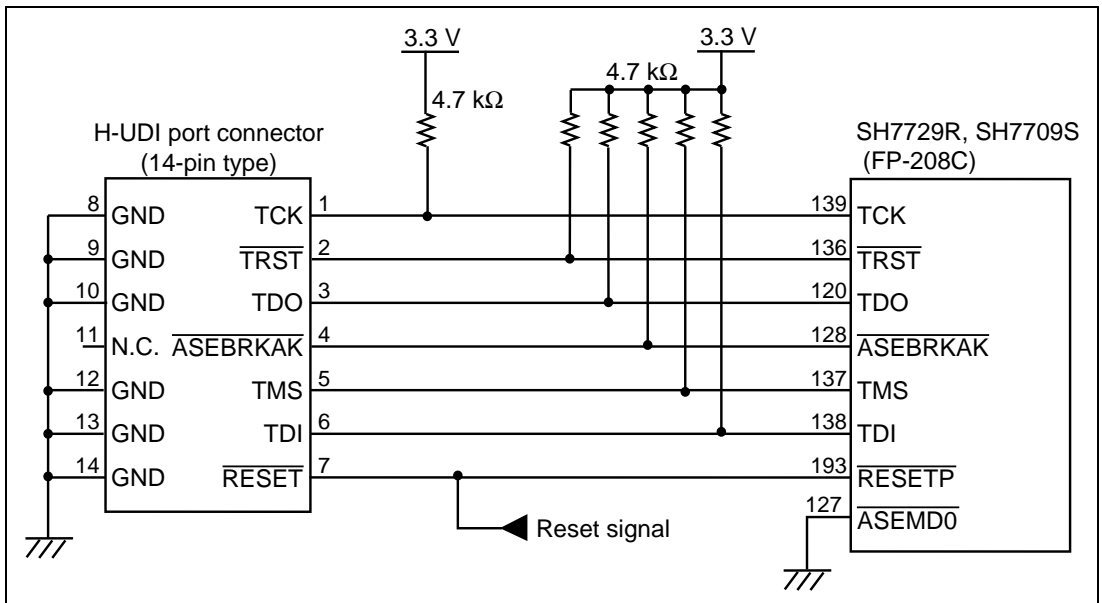

**Figure 1.4 Recommended Circuit for Connection between the H-UDI Port Connector and MPU (36-Pin Type)**
Figure 1.4 shows a recommended circuit for connection between the H-UDI port connector (36 pins) and the MPU.
- (1) When the emulator is used: /ASEMD0 = low (ASE mode)
- (2) When the emulator is not used: /ASEMD0 = high (normal mode)
6. The resistance values shown in figure 1.4 are recommended.